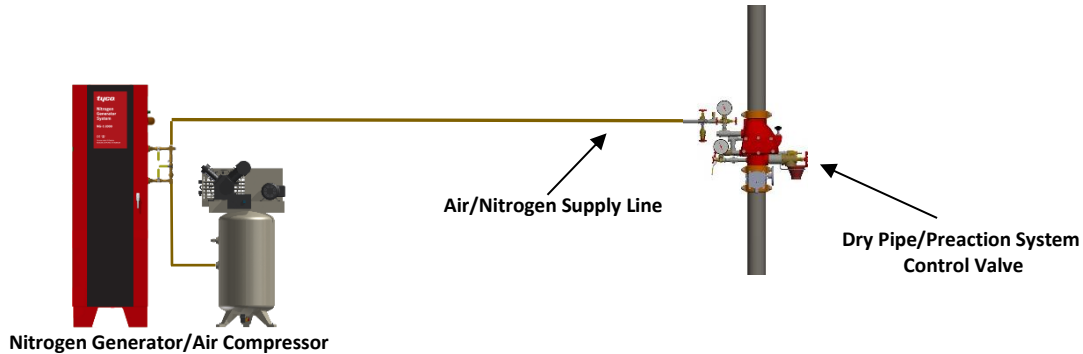

Figure 3a
Step 6a: Plumb the Nitrogen/Air Supply Line – No Additional Air Compressor (Figure 3a)